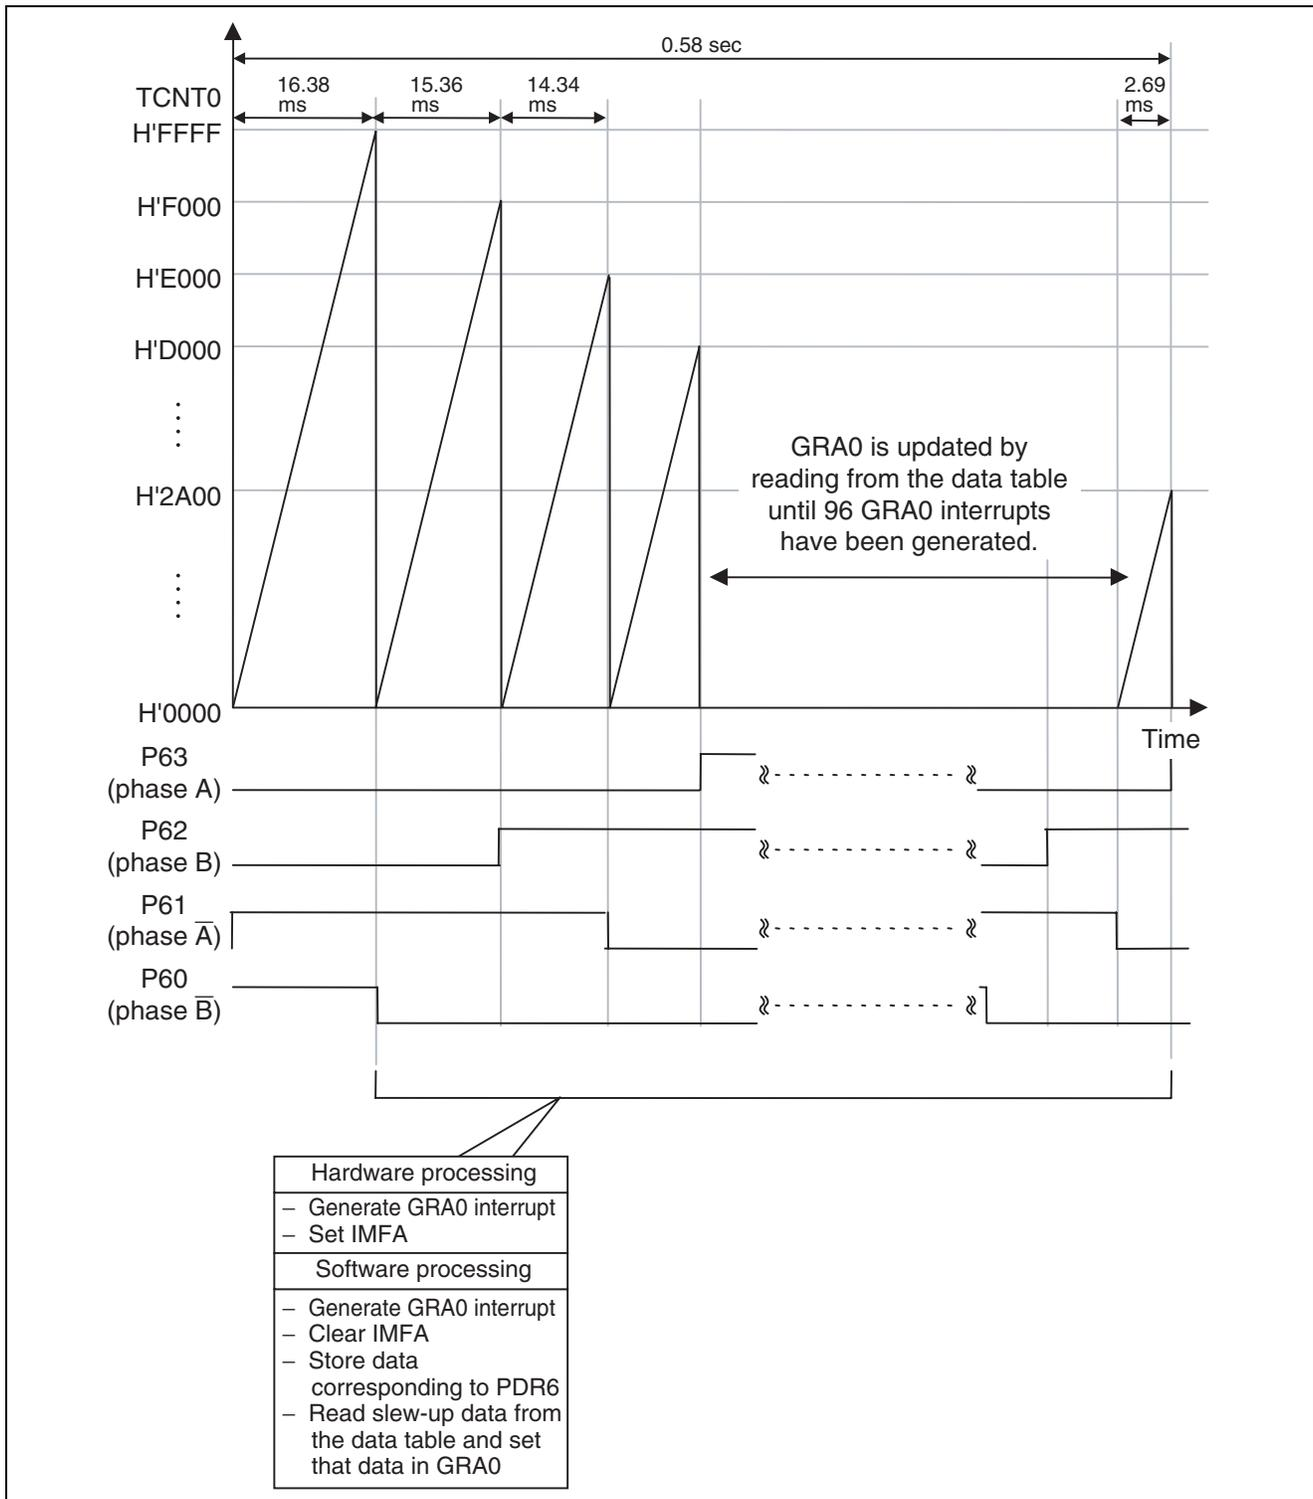

Figure 12 Principle of Slew-up Control during Reverse Rotation
3.9 Figure 12 illustrates the principle of slew-up control during reverse rotation.